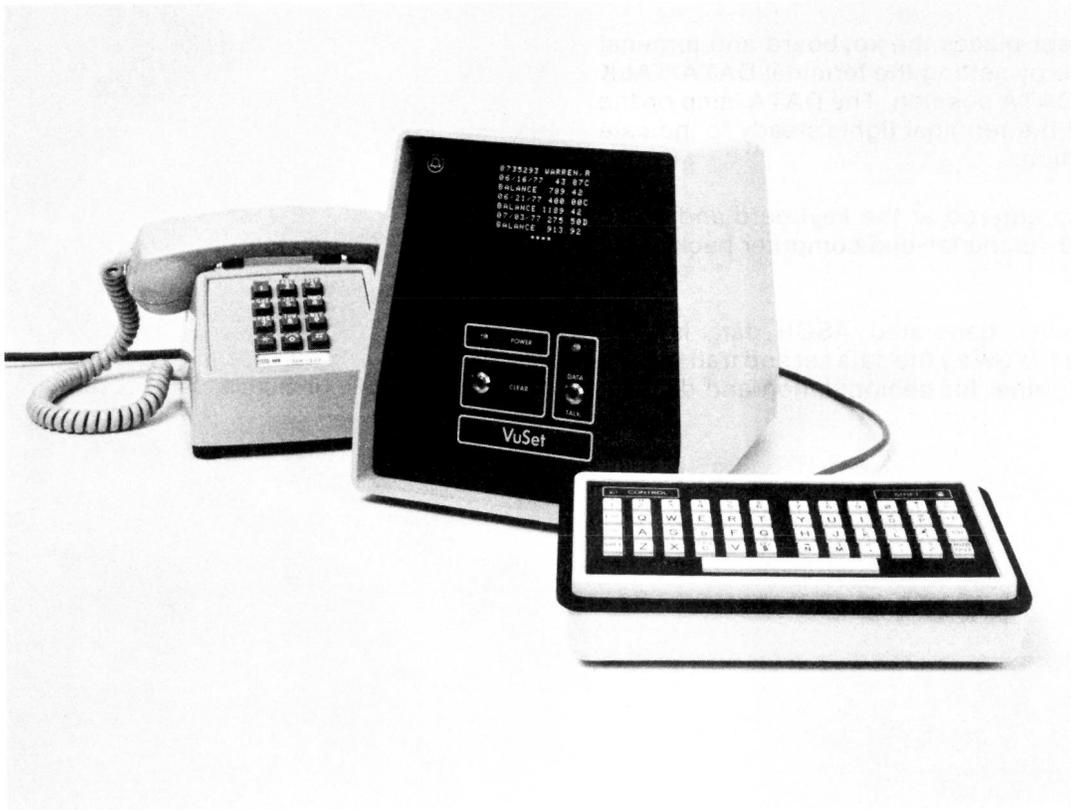

Figure 2, VuSet Keyboard/Terminal Installation
1.08 The keyboard is installed with a VuSet Data Terminal Model DS150C to a modular jack in series with a telephone set (Figure 2). The telephone is used to make the initial connection. The DATA/TALK switch on the VuSet is placed in the DATA position to substitute the VuSet equipment for the phone, and data is entered at the keyboard.